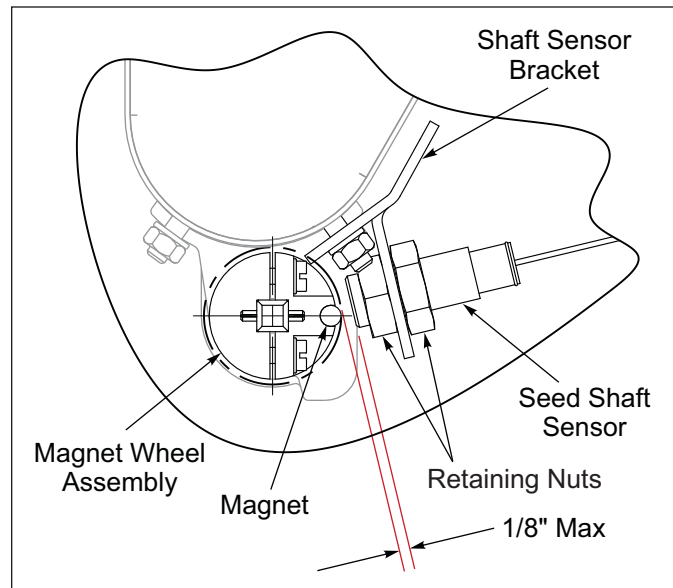

Figure 2-39: Console w/Clutch Control Detail
8. Position Seed Shaft Sensor so it is 1/8" from the Magnet Wheel Assembly. **See Figure 2-39.** Tighten both Seed Shaft Sensor Retaining Nuts.